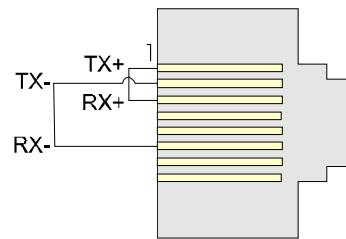

Figure 5-24. RJ-45 Ethernet Loop-back Plug
This test configures the Ethernet port's ability to transmit and receive via the twisted pair. The text transmits frames and compares them against received frames. You need a special loop-back plug (shown in *Figure 5-24*) to perform the Ethernet loop-back test:
1. Connect an external Ethernet loop-back plug (see *Figure 5-24*) to the Ethernet port on the CPU module to be tested.